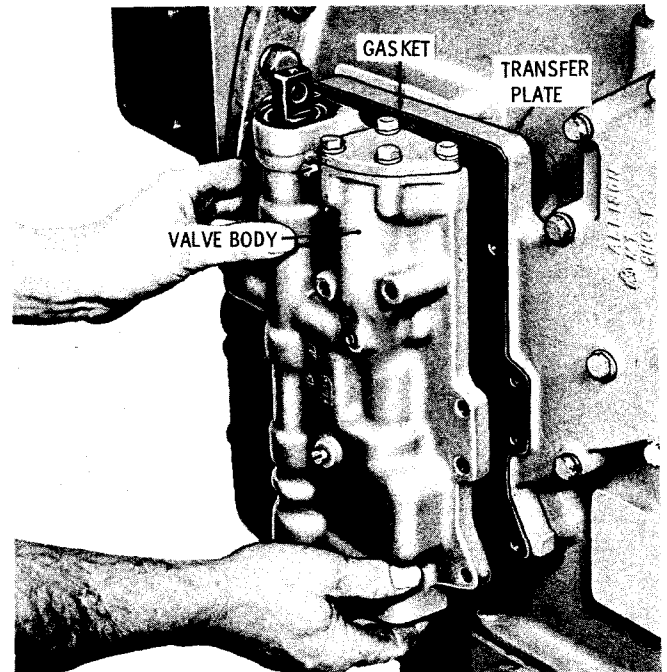

Fig. 7-100. Installing 4-speed control valve body assembly
(9) Install the control valve body gasket onto the oil transfer plate (fig. 7-100). Install the control valve body assembly onto the guide bolts. Install two 3/8-16 x 3 1/2-inch bolts and lockwashers into the valve body. Remove the guide bolts and install the remaining three 3 1/2-inch